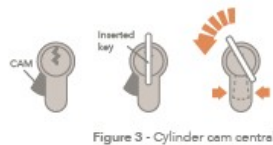

Figure 3 - Cylinder cam central
2. Using the key or thumb turn set the CAM in the centre of the cylinder body. Do not use force (Figure 3).